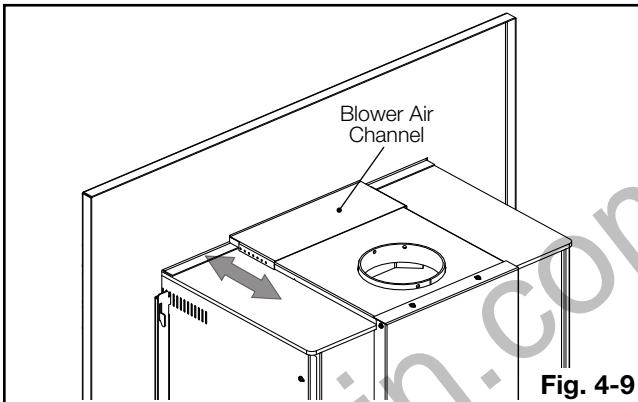

Fig. 4-9
C. Adjust the blower air channel by sliding it forwards or backwards (**Fig. 4-9**).